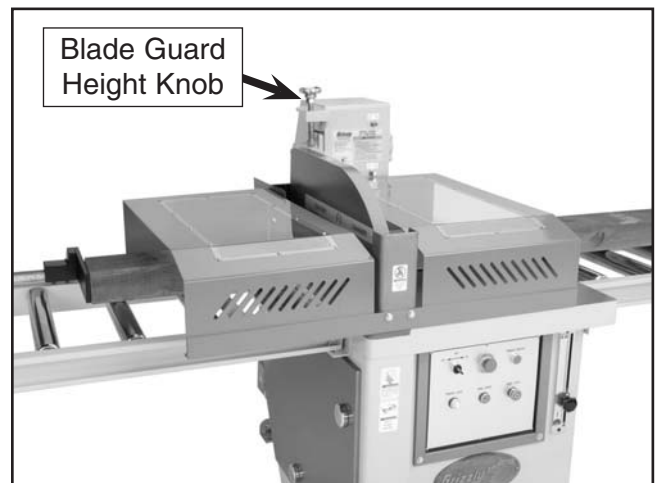

Figure 32. Workpiece prepared for cutting.
2. Set the stop to the length of the desired cut and place the workpiece against the stop (Figure 32).